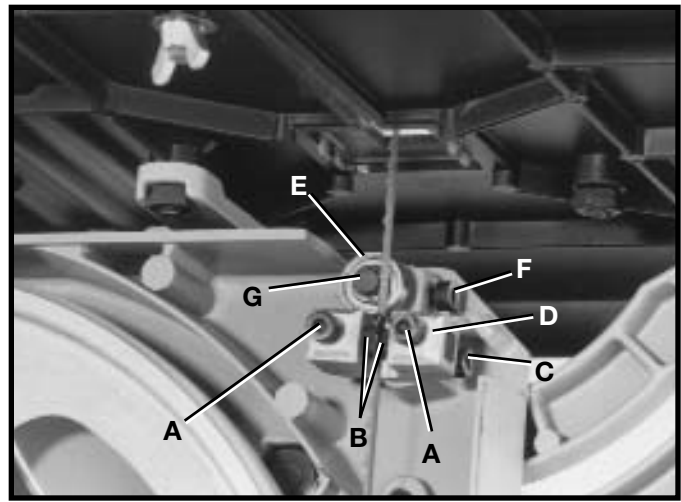

Fig. 24
1. Loosen two screws (A) Fig. 24, and move guides (B) as close as possible to the sides of the blade, being careful not to pinch the blade. Then tighten the two screws (A).
2. The front edge of guide blocks (B) Fig. 24, should be adjusted so they are just behind the “gullets” of the blade teeth by loosening screw (C), and moving assembly (D) in or out as necessary. Then tighten screw (C).
3. The lower blade support bearing (E) Fig. 24, should be adjusted to support the rear of the blade during the cutting operation and also prevent the blade from being pushed too far to the rear which could damage the blade. The support bearing (E) Fig. 24, should be set about 1/32" behind the blade by loosening screw (F) Fig. 24, and moving shaft (G) in or out. Then tighten screw (F).
4. The lower blade support bearing (E) Fig. 24, should also be adjusted so the back of the blade overlaps the outside diameter of the ball bearing by approximately 1/8". The blade support bearing (E) is set on an eccentric shaft. To change position of bearing (E), loosen screw (F) Fig. 24, and rotate shaft (G) Figs. 24 and 25, until the blade properly overlaps the support bearing. Then tighten screw (F) Fig. 24.